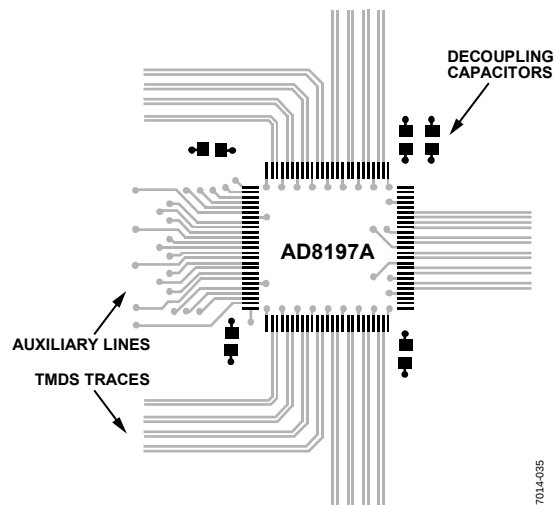

Figure 35. Example Placement of Power Supply Decoupling Capacitors Around the AD8197A
0.01  $\mu\text{F}$  capacitors, and one 4.7  $\mu\text{F}$  capacitor. The capacitors should via down directly to the supply planes and be placed within a few centimeters of the AD8197A. The AMUXVCC supply does not require additional bypassing. This bypassing scheme is illustrated in Figure 35.